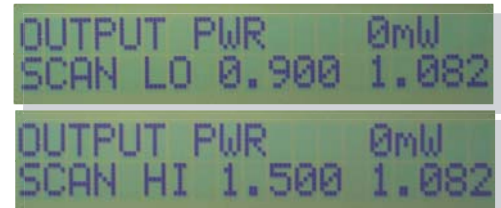

Figure 1
Check Scan: (see figure 1)
2. At the Front Panel (see Figure 1), press the MENU button to advance through the display menus until SCANLO and SCANHI values are found. The value displayed on the left is the set limit and the value displayed on the right is the actual position of the scanner. Record values from the SCANLO and SCANHI menus before making adjustments.